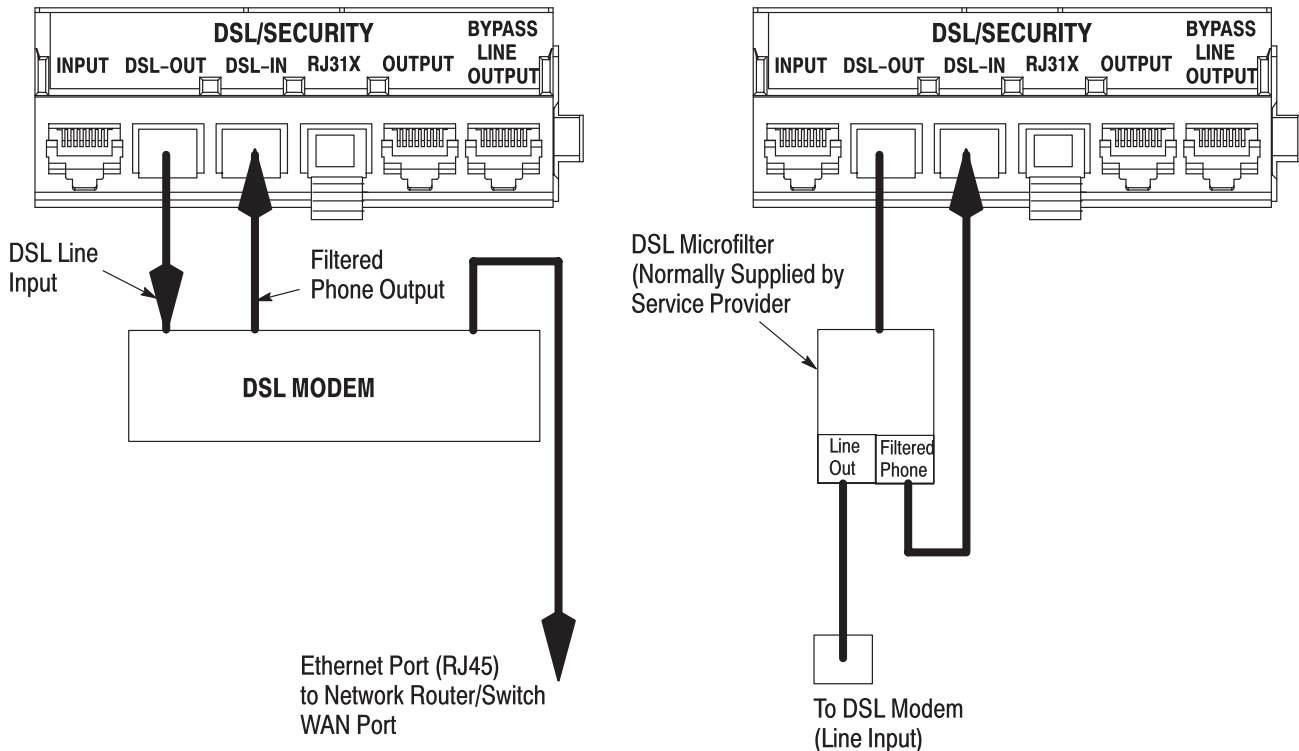

Figure 5
5.1. DSL Modem Connection (Figure 5)
Connect filtered Line 1 from DSL modem phone output (if available) to **DSL-IN** port. If using modem without a filtered phone output, use DSL microfilter as shown in Figure 5.